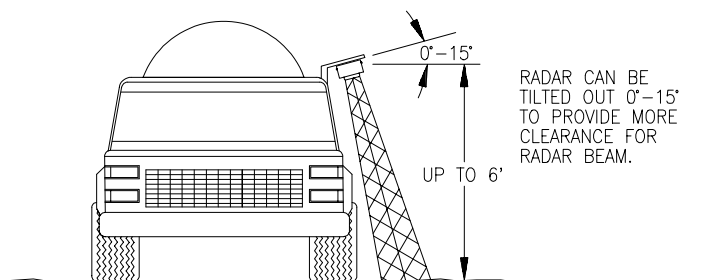

FIGURE 2
- b) The Radar lens must be parallel to the ground from front to back. Radar can be tilted out 0-15 degrees to provide more clearance and miss obstructions. See Figure 2.